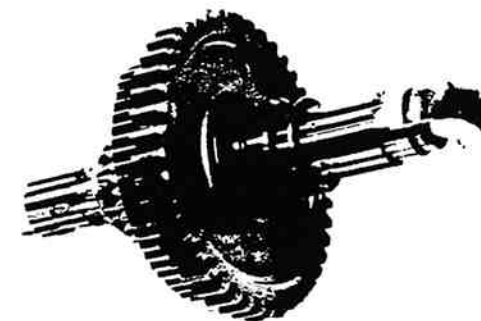

Figure 13-57. Long Key Removal.
11. Pull the long key from mainshaft (figure 13-57).